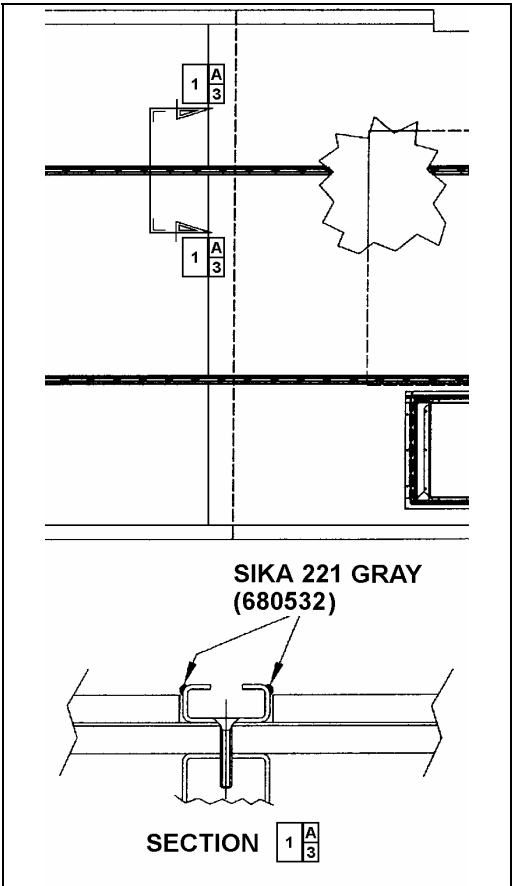

FIGURE 46: APPLICATION OF SIKA 221 GRAY 18641
8. Apply Sikaflex 221 gray sealant (680532) alongside passenger seat fixing tracks (refer to figure 46).